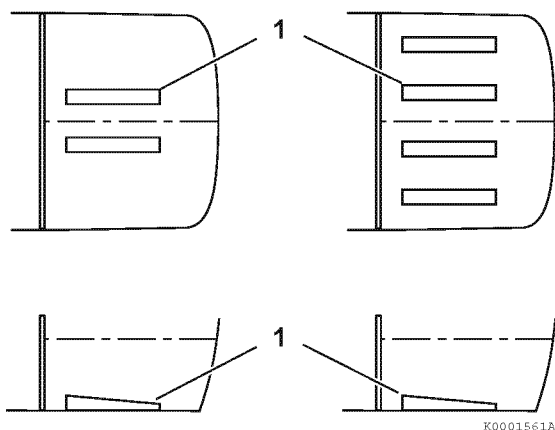

Figure 5-9
2. Locate a point on the center line at least 5 cm (2.0 in.) forward of the forward-most portion of the stringers (1, Figure 5-9).